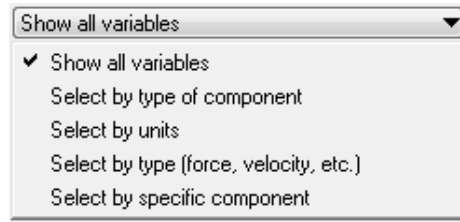

Figure 5. Categories for browsing variables.
- (8) **View Spreadsheet** button. Click to view a spreadsheet (extension `.xls`) with the same information shown on this screen.
- (9) Text message with the number of output variables listed in the tabbed text file.
- ⑩ Drop-down controls that you use to show categories of the available variables for the X and Y axes (Figure 5). These controls are active only when there is a specified tabbed-text file ⑦ that was scanned to obtain the variable names.